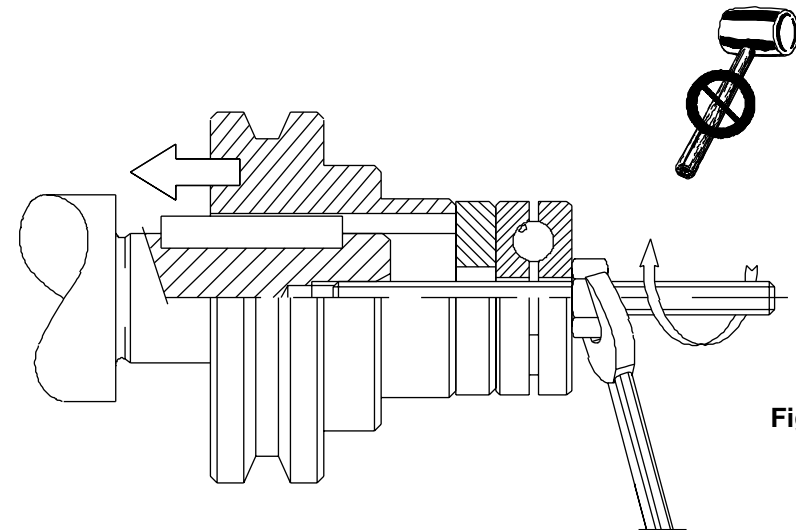

Fig.1
- The various machine members (pulleys, gear wheels, couplings, etc.) must be mounted on the shafts using special threaded holes or other systems that ensure correct operation without risk of causing damage to the bearings or the external parts of the assemblies (fig.1).
For mounting the assemblies in positions V5-B6-B7 replace the components shown in Fig.1 with the ones shown in this table.